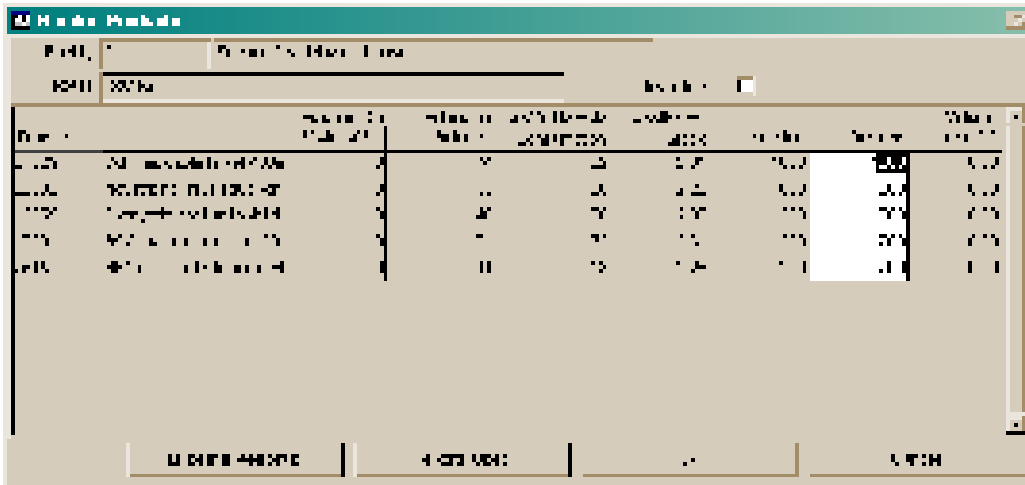

Figure 8.20 Needed Products form.
- After you select a vehicle, you can select the facilities to which it will distribute products. Double-click a facility in the Facilities in Need window. The Needed Products form (Figure 8.20) is displayed.